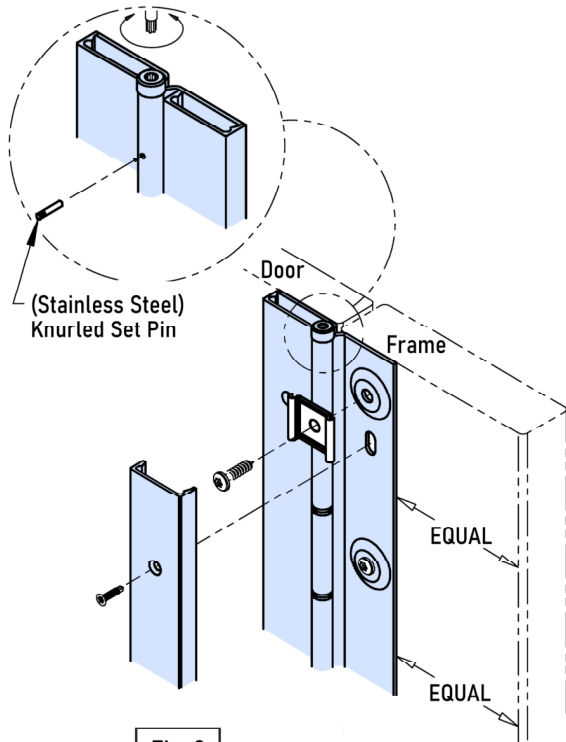
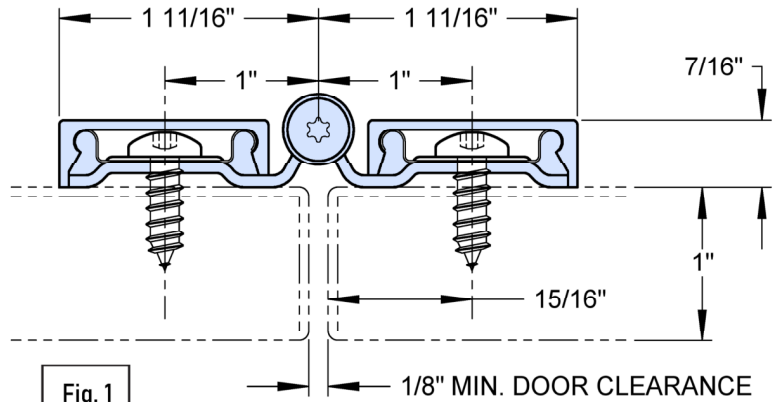

Fig. 2
Fig. 1
- A. Place the hinge on partition door as shown (Fig. 1). Be sure the hinge is properly aligned with the top of the door. Measure from the edge of the door to hinge at both the top and bottom to ensure that the hinge is located squarely on the door (Fig. 2).
- D. Install the three cover clips in each leaf by passing a screw through the clip and hinge leaf and into the door (Fig. 2). We recommend that the clips be positioned at the top, center and bottom holes.